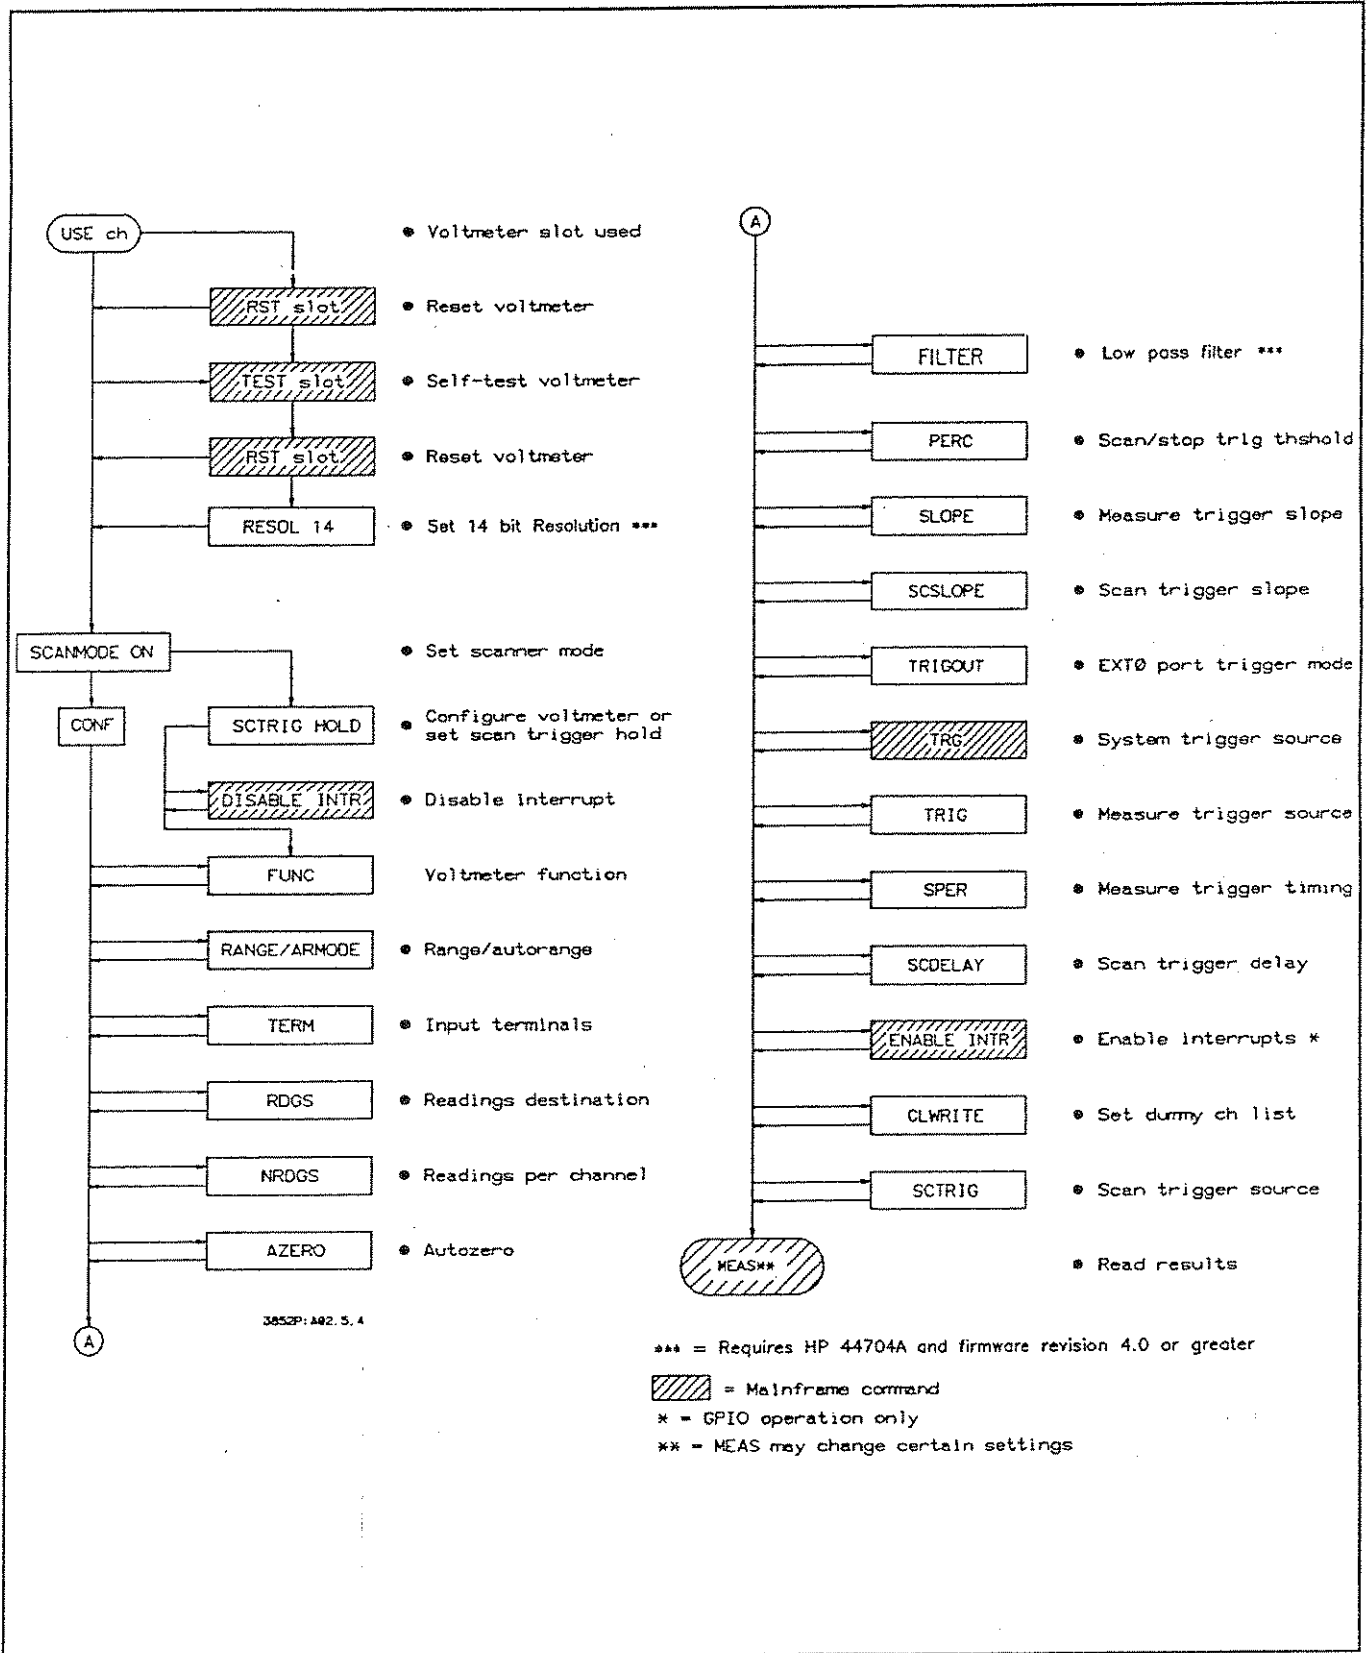

Figure 5-4. CONF and MEAS Programming Sequence
Next, refer to "Selecting Voltmeter Configuration" and/or to "Selecting Voltmeter Triggering" to select voltmeter configuration and triggering parameters required for your measurement. When you have selected required measurement parameters, program the voltmeter using the command sequence shown in Figure 5-4.
*For CONF and MEAS Scanner Mode ribbon cable operation, USE, SCANMODE, CONF, and MEAS are the only commands required to program the voltmeter. The other commands are optional and can be used as needed. Also, commands are not always presented in the order shown in Figure 5-4. When using CONF and MEAS, always program the voltmeter in the sequence shown in Figure 5-4.*
In this case, refer to “Selecting Voltmeter Configuration” to select the NRDGS parameter and to “Selecting Voltmeter Triggering” to select the SCTRIG parameter. Then, program the voltmeter using the command sequence in Figure 5-4.